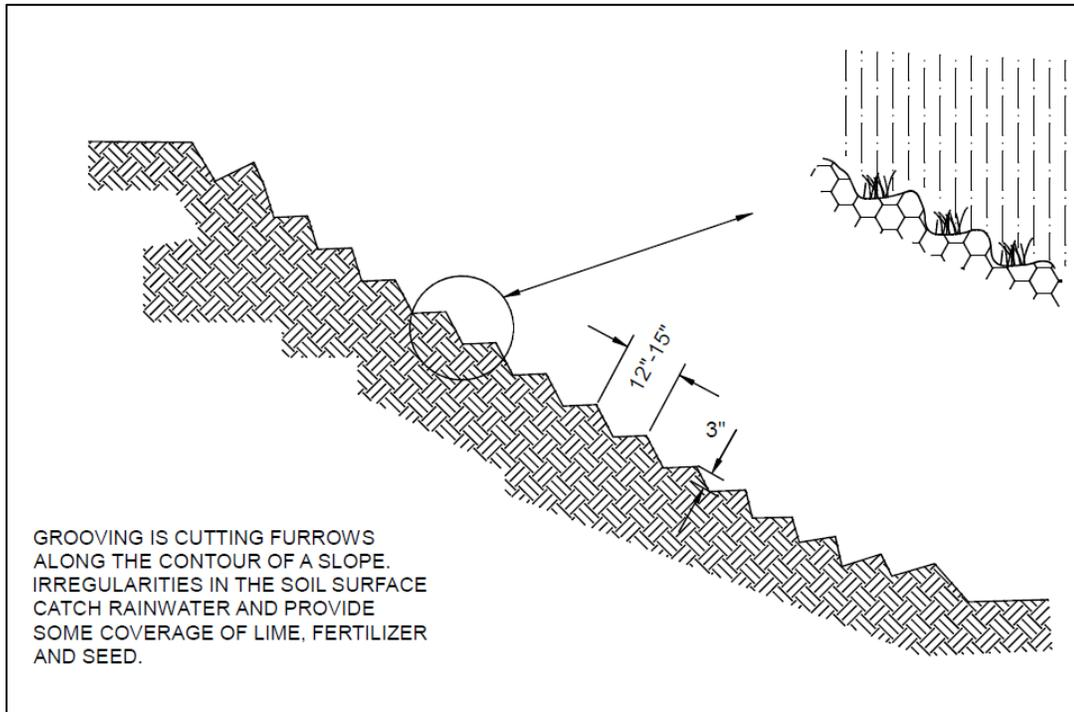

Figure 4.3.8-A: Grooving details. Adapted from VDEQ (2024).
- Grooving may be implemented when stair-stepping is not necessary. Use machinery to create a series of ridges and depressions that run along the slope contour. Grooves may be constructed with discs, tillers, spring harrows, or the teeth on a front-end loader bucket. Such grooves should not be less than 3 inches deep or further than 15 inches apart (Figure 4.3.8-A).